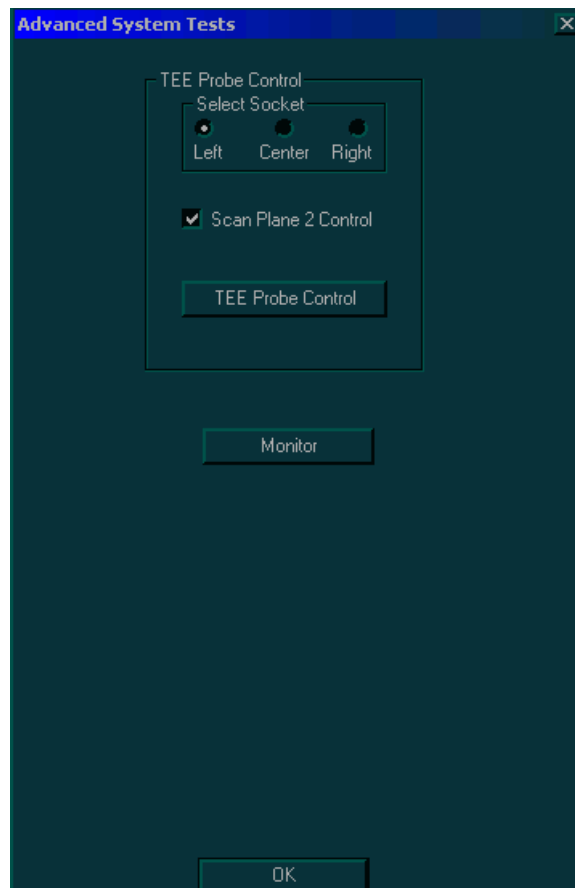

Figure 7-34 MUX Advanced System Tests Options
- 2) Trackball to the **Advanced board tests** button and press **Select**. The *Advanced System Tests* options are displayed, as shown in Figure 7-34 on page 7-58.